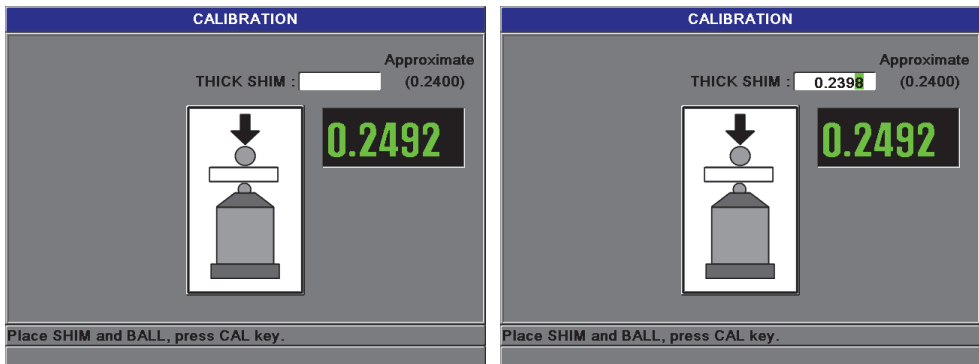

Figure 4-9 THICK SHIM calibration point
6. **THICK SHIM point:** The instrument will prompt you to place a specific thick calibration shim and target onto the probe tip. The thickness of this thick calibration point will vary depending on which target ball, disk, or target wire is selected. The approximate thickness of the shim will be displayed in the lower measurement box. Press **[CAL]** to transfer the measurement to the text box, use the arrows keys to enter the known thickness of the calibration shim, and then press **[CAL]** (see Figure 4-9 on page 81).